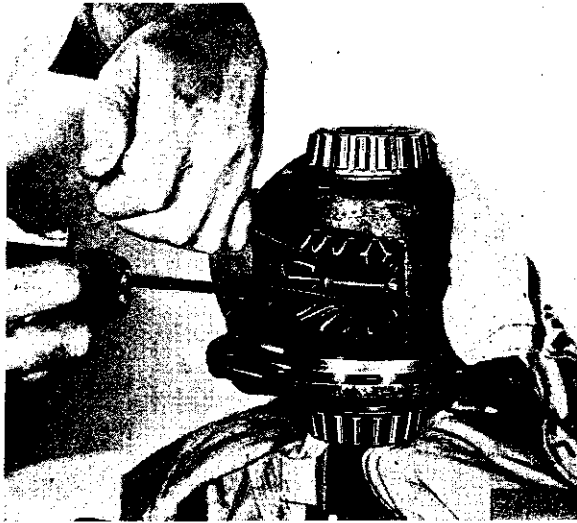

FIG. N-44—REMOVING SNAP RINGS FROM CROSS PIN
h. Reposition differential case onto axle shaft as shown. Remove the two snap rings from the cross pin. Use two screw drivers and push the rings free from the cross pin. Place a shop towel behind the case to prevent the snap rings from flying out of the case. Refer to Fig. N-44.